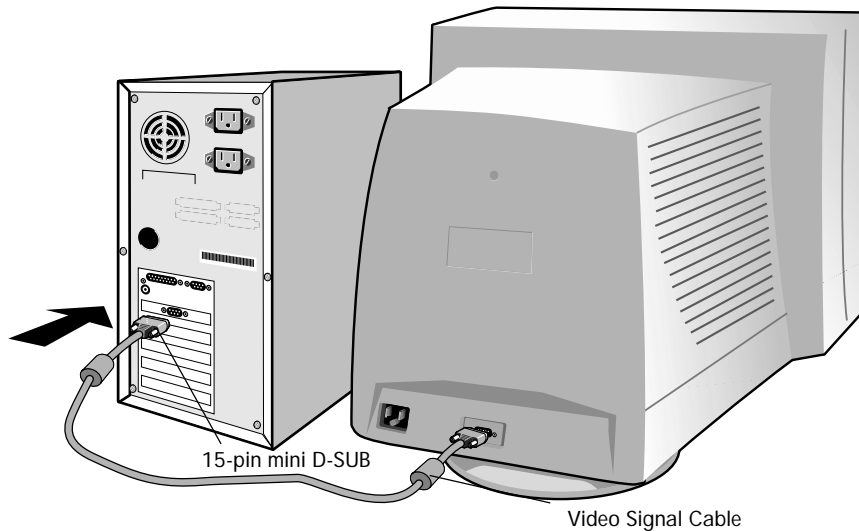

Figure A.1
3. For the PC: Connect the one end of the 15-pin mini D-SUB of the video signal cable to the rear of the monitor and the other end to the connector of the display card in your system (**Figure A.1**). Tighten all screws.